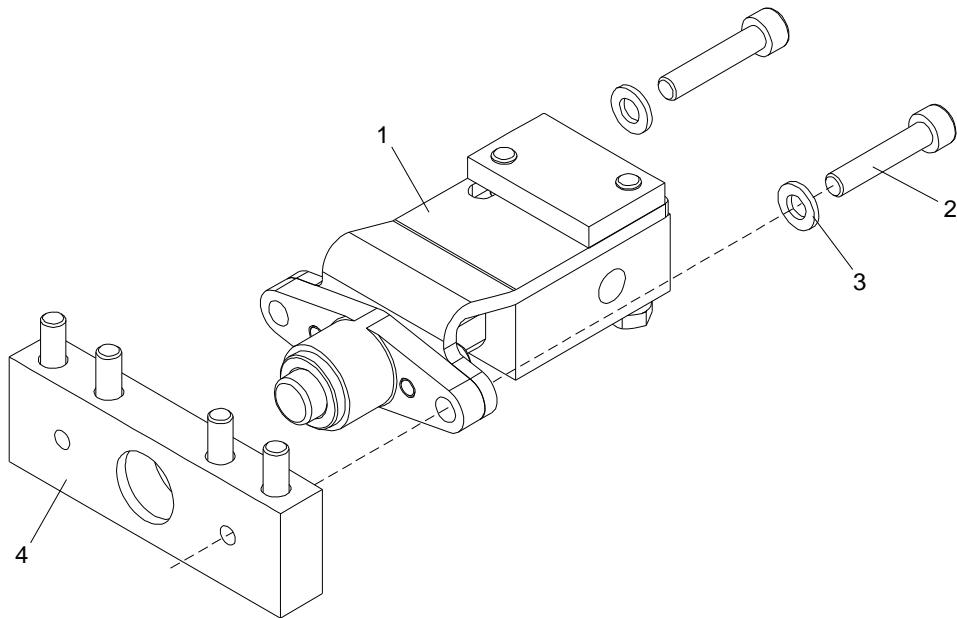

Figure 7-30: Replacement of Key Indicator Valve Assembly (V5)
1. Take notes how the pneumatic connections are connected to the key indicator valve assembly (1) and loosen the connections. See Figure 7-30.
2. Remove the key indicator valve assembly (1) from the attachment (4) by removing the screws (2) and washers (3).
2. Fit the key indicator valve assembly (1) to the attachment (4) and mount the washers (3) and screws (2). See Figure 7-30.
3. Connect pneumatic connections to the key indicator valve assembly (1) according to previous notes.